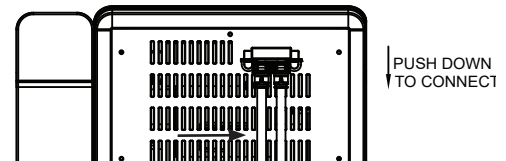

Figure 8
14. Replace drain tubes on back. See Figure 8.